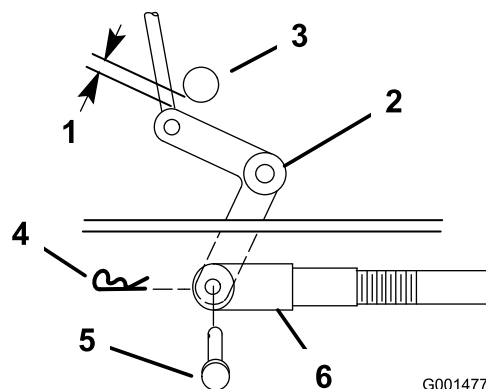
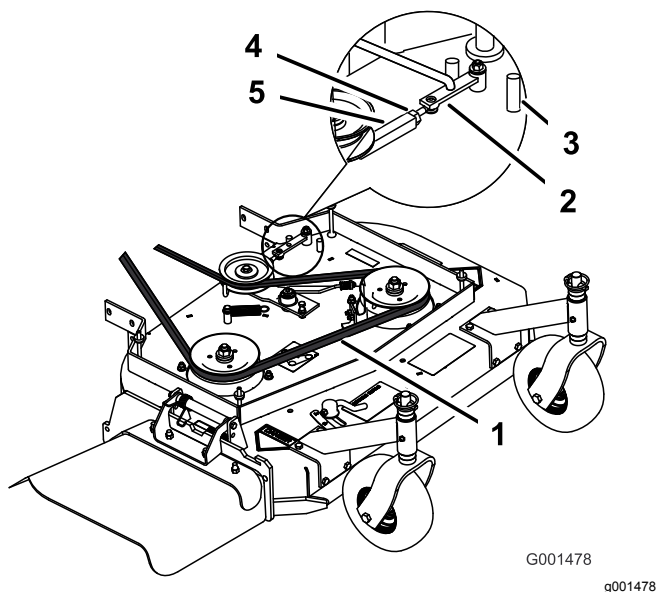
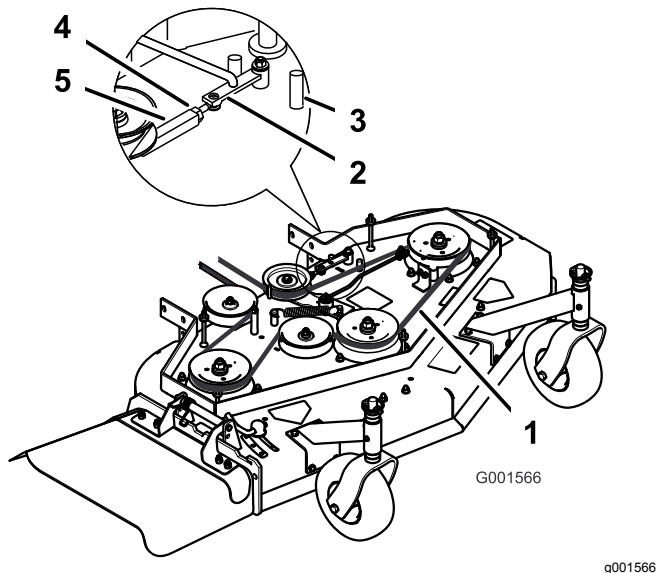

Figure 39
Figure 40
Figure 41
9. Check the clearance between the bell crank and transmission-output shaft (Figure 39).
10. Remove the hairpin cotter and clevis pin from the bell crank (Figure 39).
11. Rotate the clevis clockwise on the rod to increase the clearance; rotate it counterclockwise to decrease it (Figure 39).
Note: If the assist arm does not contact the front stop on the mower deck (Figure 40 or Figure 41), adjust the clevis to bring the bell crank closer to the transmission-output shaft (Figure 39).